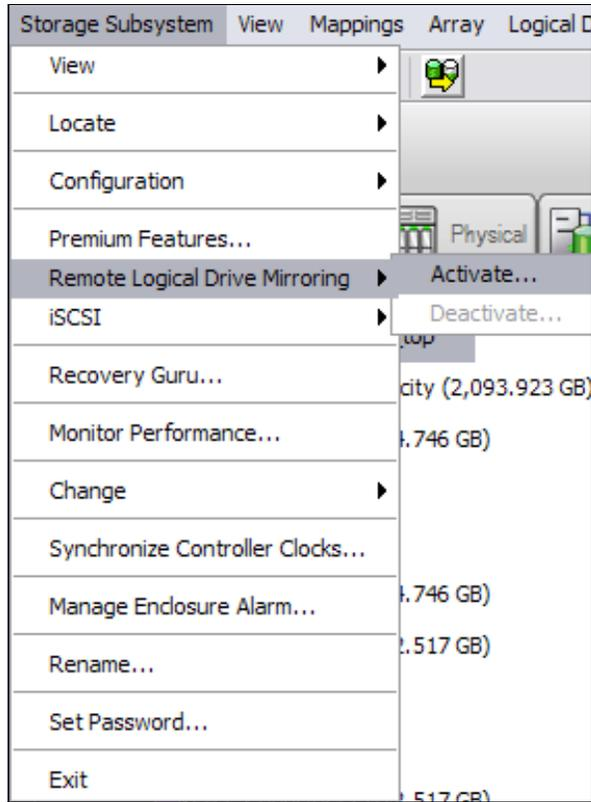

Figure 5-8 Activating remote mirroring
1. Select **Storage Subsystem** → **Remote Mirroring** → **Activate**. (Or, you can right-click and select **Remote Mirroring** → **Activate**.) See Figure 5-8.